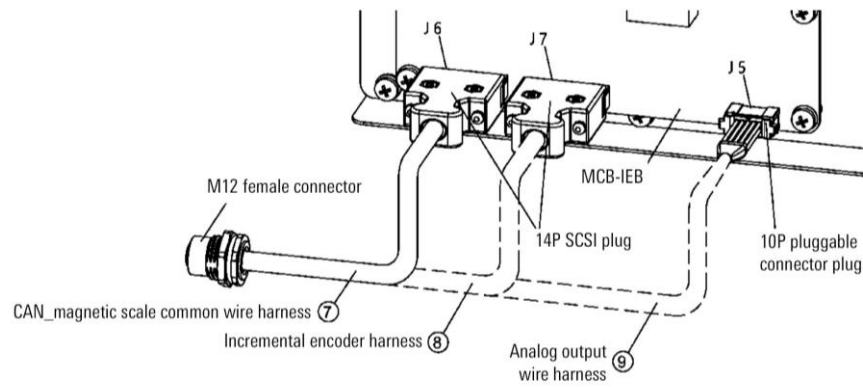

Figure 2-9 Multi-function communication module connection diagram
Step5. As shown in Figure 2-9, according to actual needs, ⑦ CAN\_magnetic scale common wire harness or ⑧ incremental encoder harness or the ⑨ analog output harness is connected to the corresponding interface on the ③ MCB-IEB (⑦ CAN\_magnetic scale common wire harness is connected to J6 interface, ⑧ incremental encoder wire harness is connected to J7 interface, ⑨ analog output wire harness is connected to J5 interface), install the M12 female connector at the other end on the ① M12 connector mounting plate.